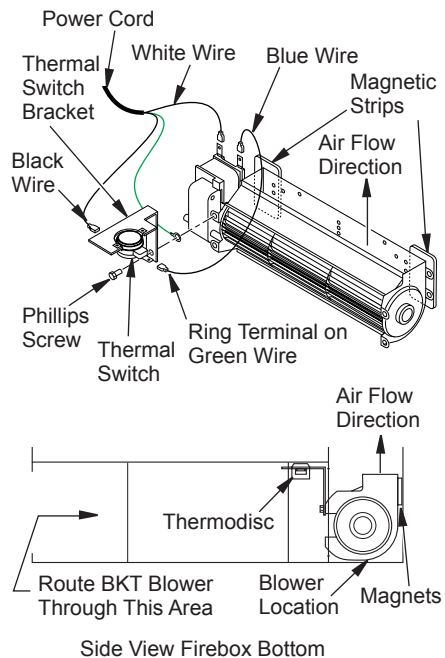

Figure 29 - Blower Model BKT
- Place the green ground wire with ring terminal between the bottom hole on the thermal switch bracket and the top ear hole on the blower assembly. Insert the phillips screw into all three pieces and tighten securely (see Figure 29).
- Place the blower against the lower rear wall of the firebox outer wrapper with the exhaust port directed upward and the thermodisc positioned up near the fireplace bottom. The thermodisc must be oriented near the fireplace bottom as shown in Figure 29 in order to sense temperature and properly operate. The blower will be held in position against the back wall by the magnets incorporated onto the blower housing (see Figure 29).